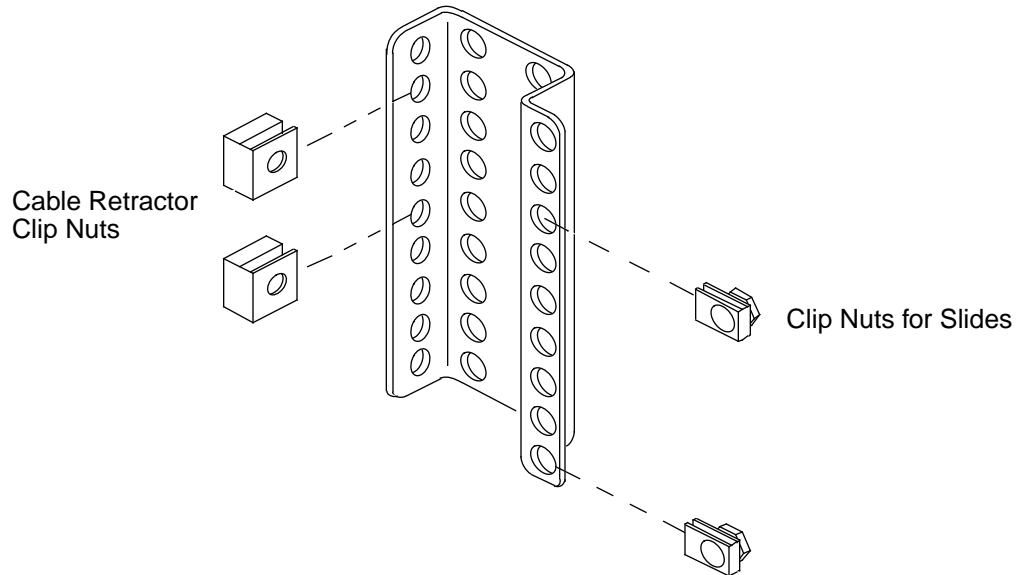

Figure 1. Clip Nut Locations on Chassis Rails
2. Place four large clip nuts (P/N 90141400) on each side of the cabinet (refer to Figure 1); there are eight clip nuts that will be used for installing the tray slides.
- a. Place a clip nut into the 4th hole up from the clip nut of the last drive tray slide. Refer to Figure 1.
- b. Install the upper clip nuts into the 5th hole above the lower clip nut. Refer to Figure 1.